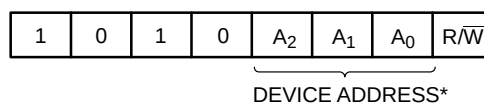

Figure 3. Slave Address Bits
The Master addresses a Slave by creating a START condition and then broadcasting an 8-bit Slave address. For the CAT24C64, the first four bits of the Slave address are set to 1010 (Ah); the next three bits, A₂, A₁ and A₀, must match the logic state of the similarly named input pins. The devices in WLCSP 4-bumps respond only to the Slave Address with A₂ A₁ A₀ = 000. The R/W bit tells the Slave whether the Master intends to read (1) or write (0) data (Figure 3).